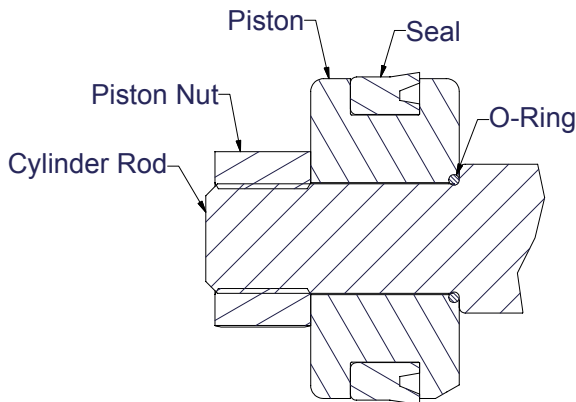

Figure 3-5, Piston Seal
2. Note the direction of the seal on the piston. Improper installation will result in poor performance. The cupped side or O-Ring side of the seal should be facing the gland cap. (Figure 3-5)